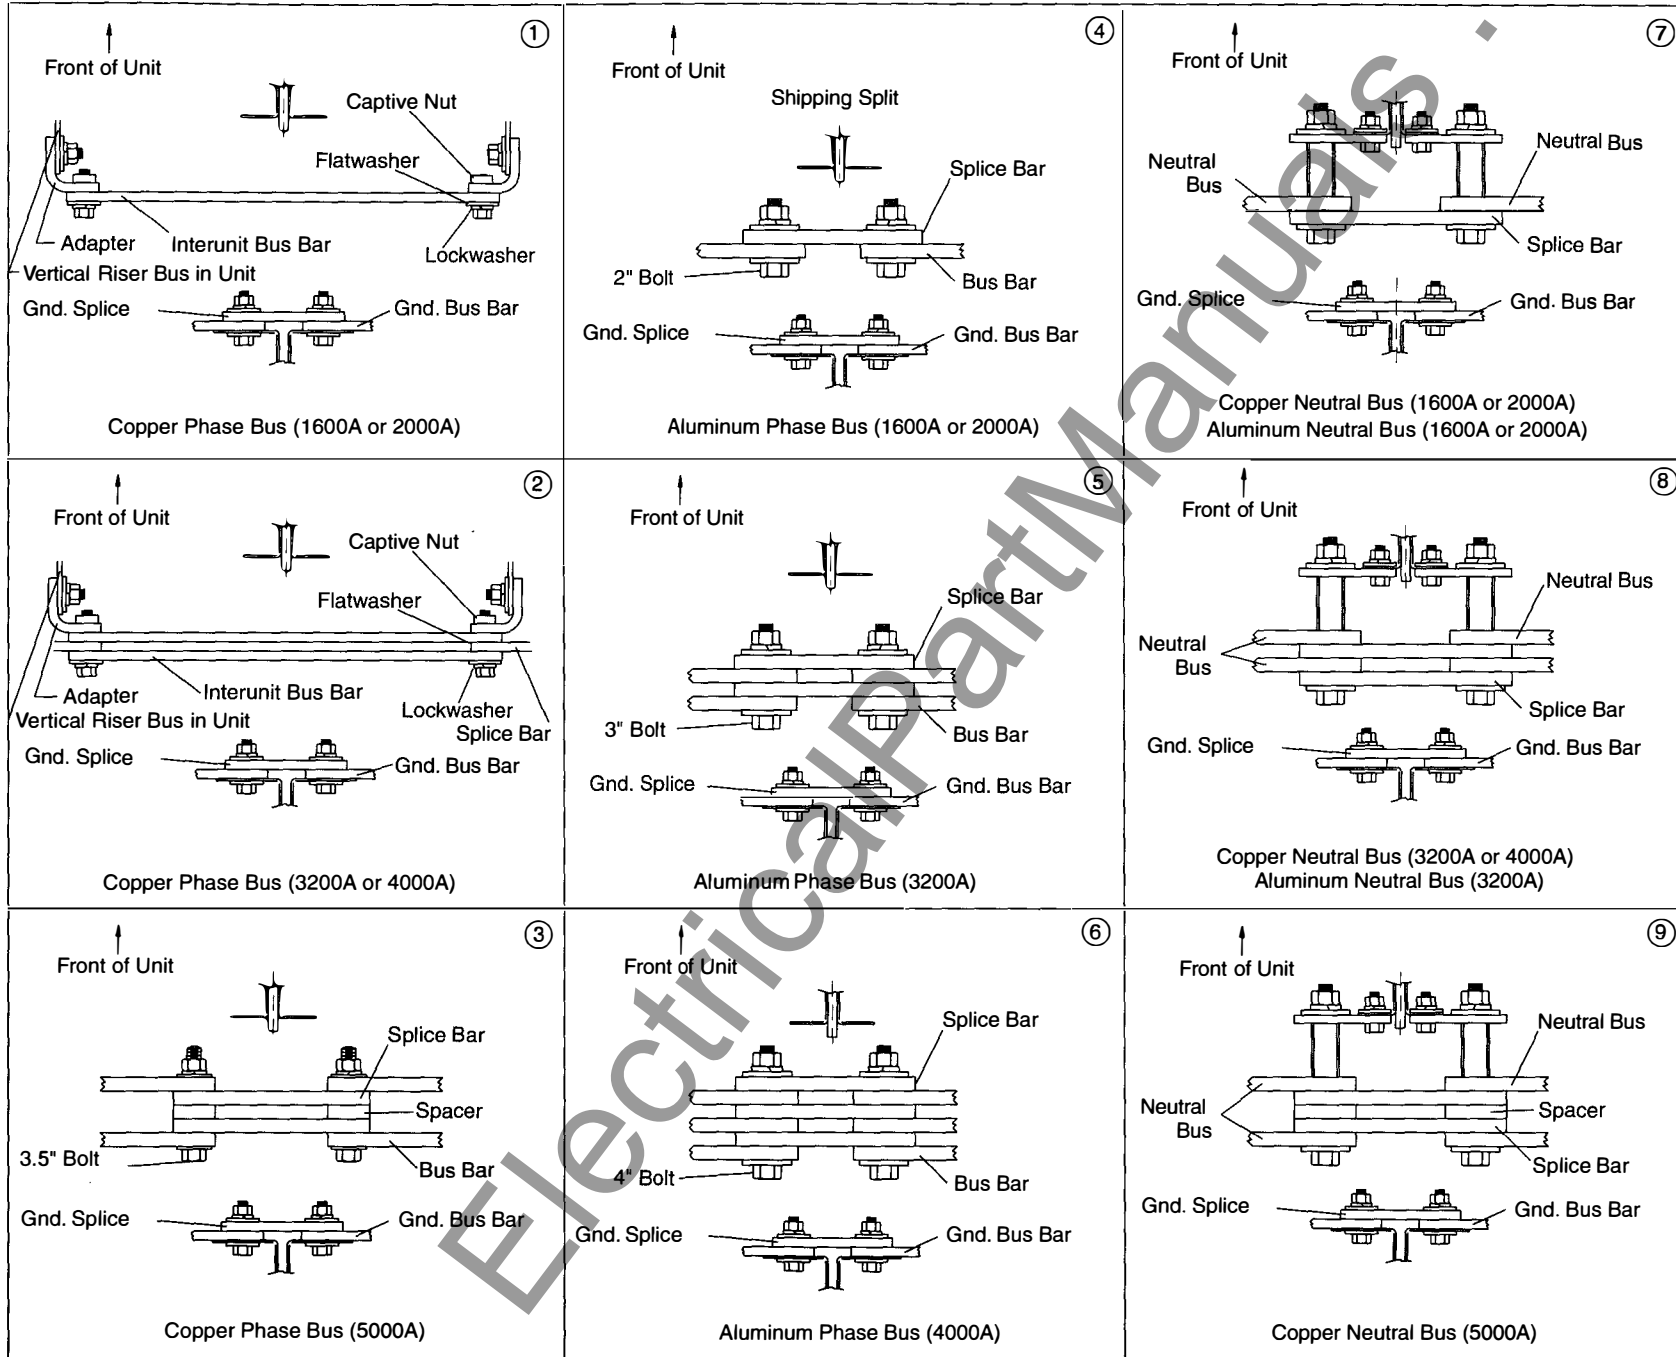

Figure 14. Bolted Bus Joint Arrangement
4. Refer to **Figure 14** for method of bolting joints, and follow hardware tightening instructions which follow.